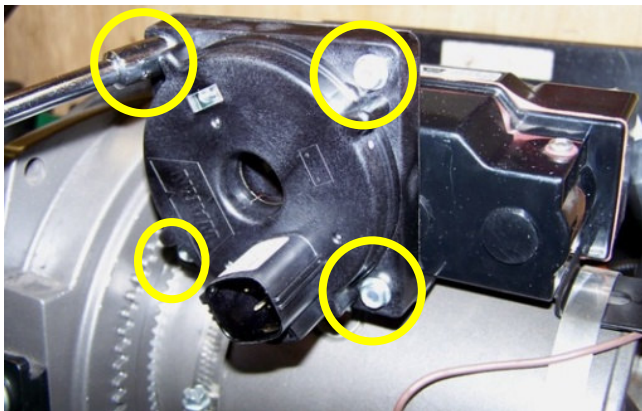

Figure 15
Step 13: Install the Medium Duty GEN-II OLI module PN 81600 onto the mounted bracket using the four screws PN 62819 (Figure 15)